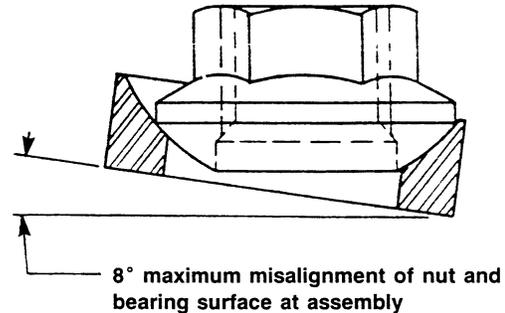

Figure 16.—Self-aligning nut.
A self-aligning washer is used with a mating nut that has conical faces as shown in figure 16. Because there is both a weight penalty and a severe cost penalty for using this nut, it should be used only as a last resort. Maintaining parallel mating surfaces within acceptable limits ( $2^\circ$  per SAE Handbook (ref. 4)) is normally the better alternative.